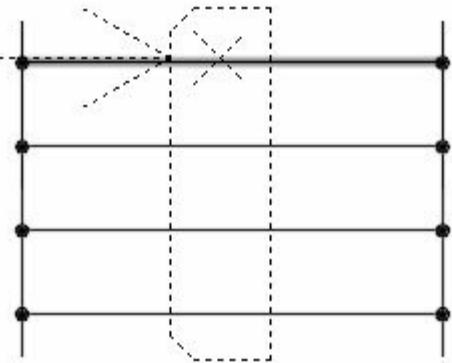

Figure-32. Placing the connector
- Click on the top rung of the ladder as shown in Figure-32 to place the connector.